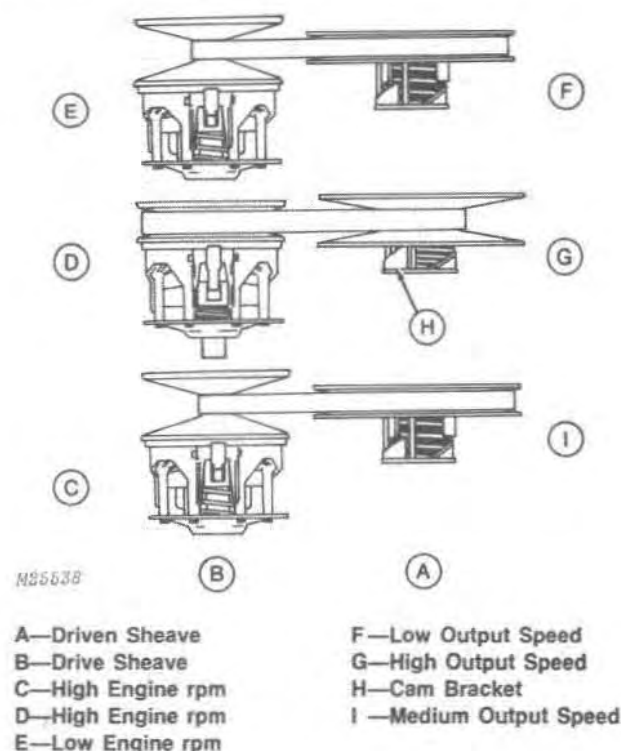

Fig. 4-Torque-Sensitive Driven Sheave
The driven sheave (A, Fig. 4) does more than act as a take-up for the action of the drive sheave. The driven sheave is also "torque-sensitive." The driven sheave rides on the cam bracket (H) as it opens to obtain high-speed position.
If an increased load or high torque requirement occurs (such as climbing a steep hill) after the snowmobile is up to speed, the cam bracket (H, Fig. 4) in the driven sheave forces the sheave halves together, obtaining a slower travel speed (I) while maintaining high engine rpm (C) for increased torque.
In Fig. 4, the top and bottom drawings have the same drive belt position. Increased speed of the engine in the lower drawing, causes a difference in the output speed of the driven sheave.